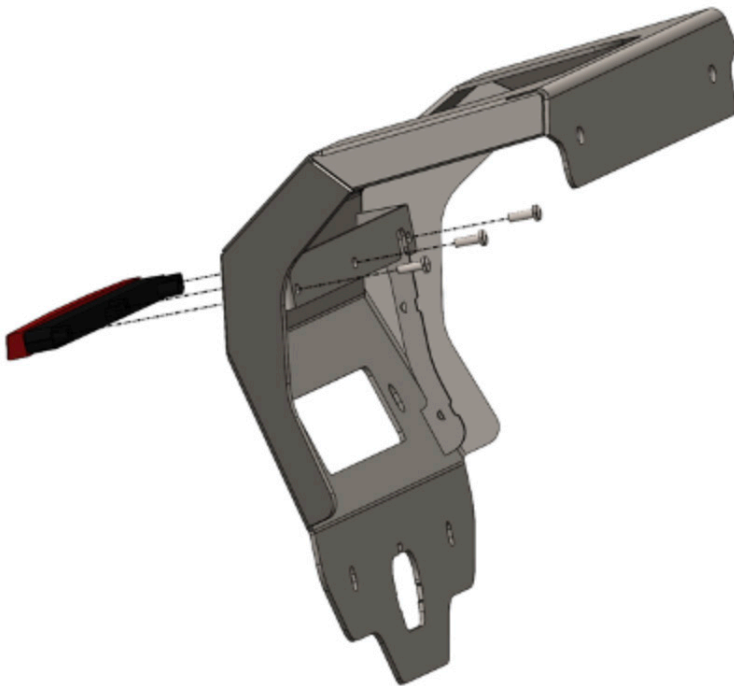

Figure 18
19. Install the 3rd brake light into the winch cover (22783) using the OE hardware. Use zipties to fasten the harness to bracket. Install fairlead before installing the winch cover onto the bed. Figure 18.